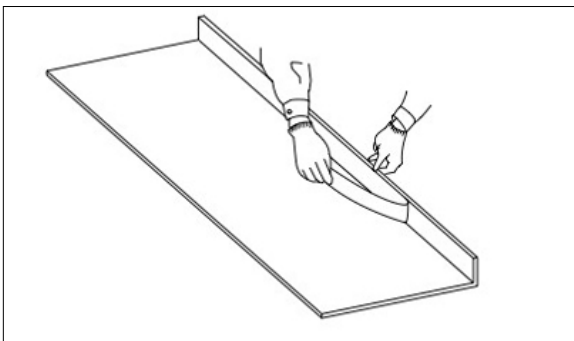

Fig 2
- ◆ Remove the protective film from the back of the nose of the Takiron Stair Treads. See Fig 2.
- ◆ Remove the protective film from the back of the Takiron Stairtread nose. See Fig 2.